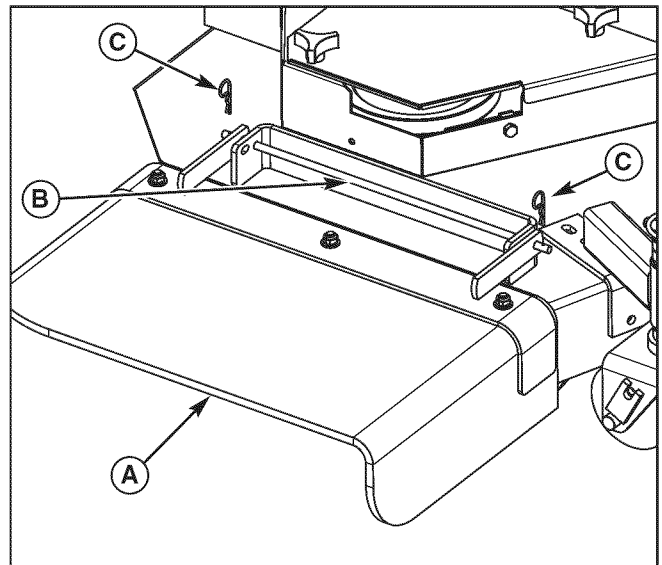

Figure 57. Reinstall the Discharge Chute
6. Reinstall the discharge chute (A, Figure 57) and secure with the supplied quick attach rod (B) and hairpin clips (C).